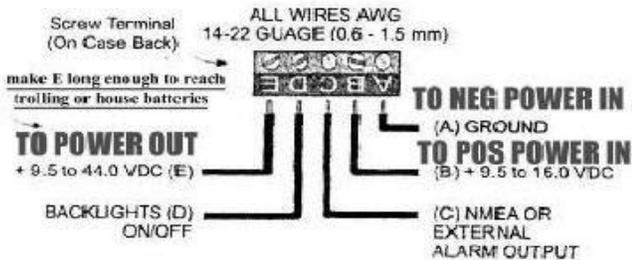

Figure 2
- Bring the wires out the mounting hole and make the connections to the screw terminal on the instrument case back as shown in Figure 2 and Figure 3.
- Carefully check all your wiring against those shown in Figures 2 and 3. If everything is wired correctly you can mount the VF25 in the instrument hole. Be sure the bulkhead gasket is in place and use only finger tension to tighten the bracket hold-down nuts. Do not overtighten the bracket or you may damage the case - do not use tools to tighten the nuts.